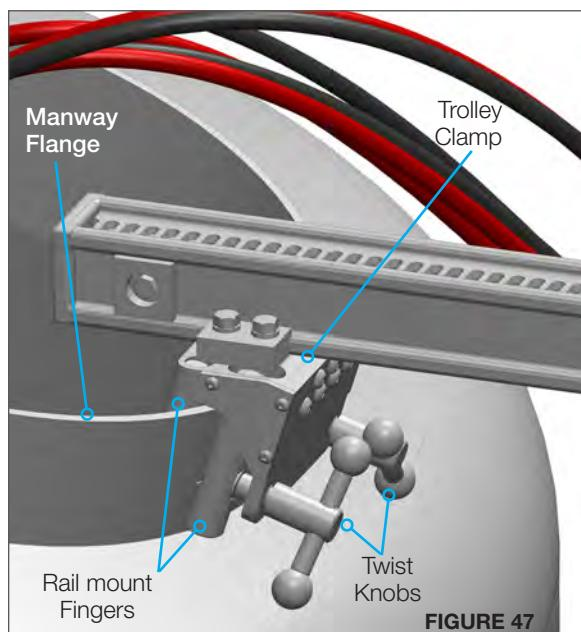

FIGURE 47
2. Center the manway flange between the Fingers of the Trolley Clamp and loosely tighten with the Twist Knobs. (**Figure 47**)